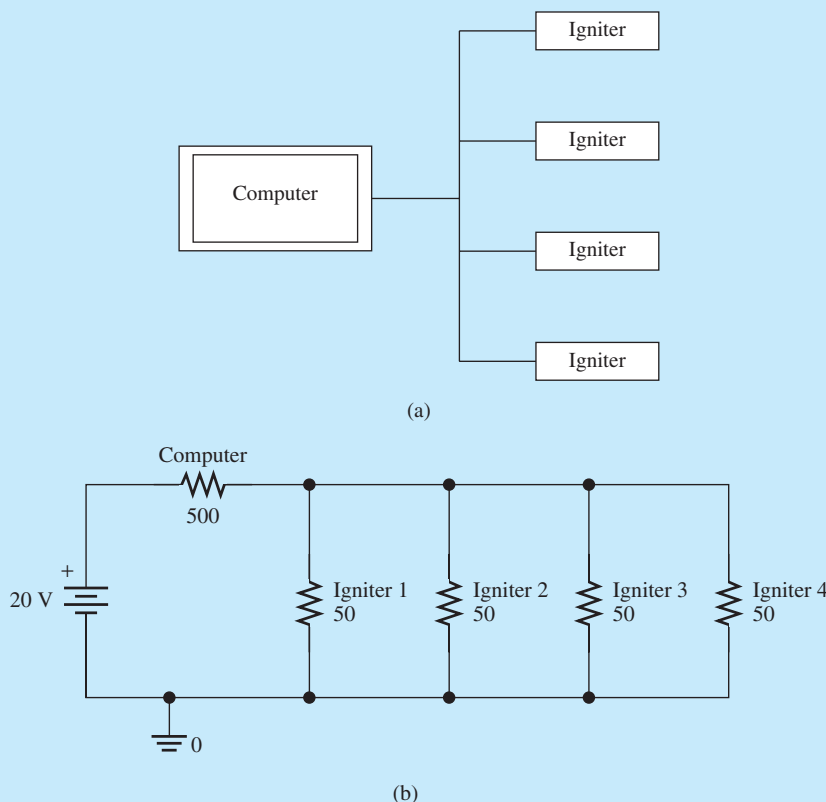
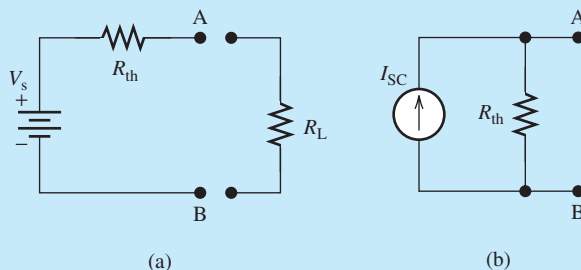

FIGURE 3.77 (a) A simple computer setup and igniters; (b) its equivalent circuit.
FIGURE 3.78 (a) Thévenin and (b) Norton equivalent circuit for the circuit of Figure 3.77.
Aerial fireworks are used in various celebration events. In order to synchronize the firework ignition process, a computer is required. Figure 3.77(a) shows a simple setup of the computer and the igniter for an aerial fireworks show.
Assume a voltage source of 20 V is connected to the computer in series; the computer has a resistance of 500Ω , and the igniter has a resistance of 50Ω when it receives a signal from the computer to order it to launch. Assume the same ground for all igniters and the computer voltage source. The equivalent circuit for the computer and igniters is shown in Figure 3.77(b).
- a. From Figure 3.77(b), the computer's equivalent circuit is a voltage source in series with a 500- Ω resistor. Indeed, this is the Thévenin equivalent circuit of the computer. The Norton equivalent circuit of the computer will be a current source in parallel to the same resistor. The Thévenin and Norton equivalent circuits are shown in Figure 3.78(a) and (b), respectively.